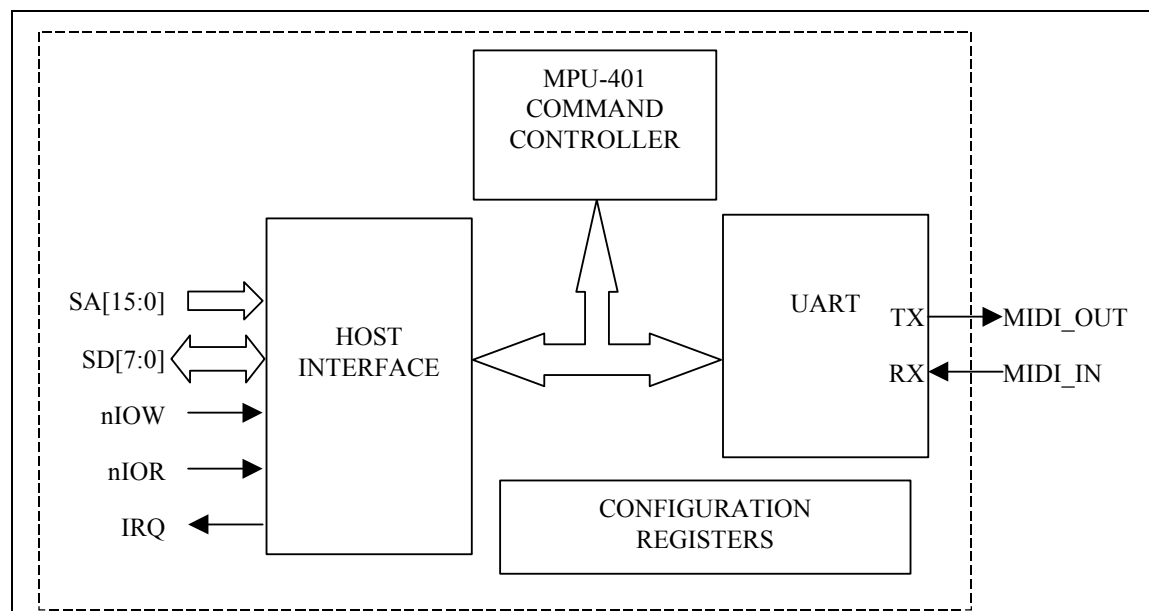

FIGURE 3 – MPU-401 MIDI INTERFACE
Serial Port 3 is used exclusively in the LPC47M14x as an MPU-401-compatible MIDI Interface. The LPC47M14x MPU-401 hardware includes a Host Interface, an MPU-401 command controller, configuration registers, and a compatible UART (FIGURE 3).
The Host Interface includes two contiguous 8-bit run-time registers (the Status/Command Port and the Data Port), and an interrupt. For illustration purposes, the Host Interface block shown in FIGURE 3 uses standard ISA signaling. Address decoding and interrupt selection for the Host Interface are determined by device configuration registers (see Section “MPU-401 Configuration Registers”).
- Note³** IRQ is the MPU-401 Host Interface IRQ shown in FIGURE 3. The 16C550A UART Receive FIFO Threshold=1.
Commands are written by the host to the MPU-401 MIDI Interface through the Command register (Table 34) and are immediately interpreted by the MPU-401 Command Controller shown in FIGURE 3. The MPU-401 Command Controller in this implementation only responds to the MPU-401 RESET (FFh) and UART MODE (3Fh) commands. All other commands are ignored.